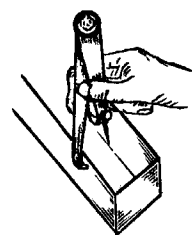

FIG. 14 SCRIBING A LINE
5. Grasp the top of the caliper with the thumb and forefinger of the right hand. Place the curved tip of the caliper against the surface from which the line is being located, keeping the tip of the caliper leg square with the surface from which it is guided and in contact with the surface. Scribe the line by exerting a slight pressure on the scriber and drawing the caliper along the surface being scribed. (Fig. 14).